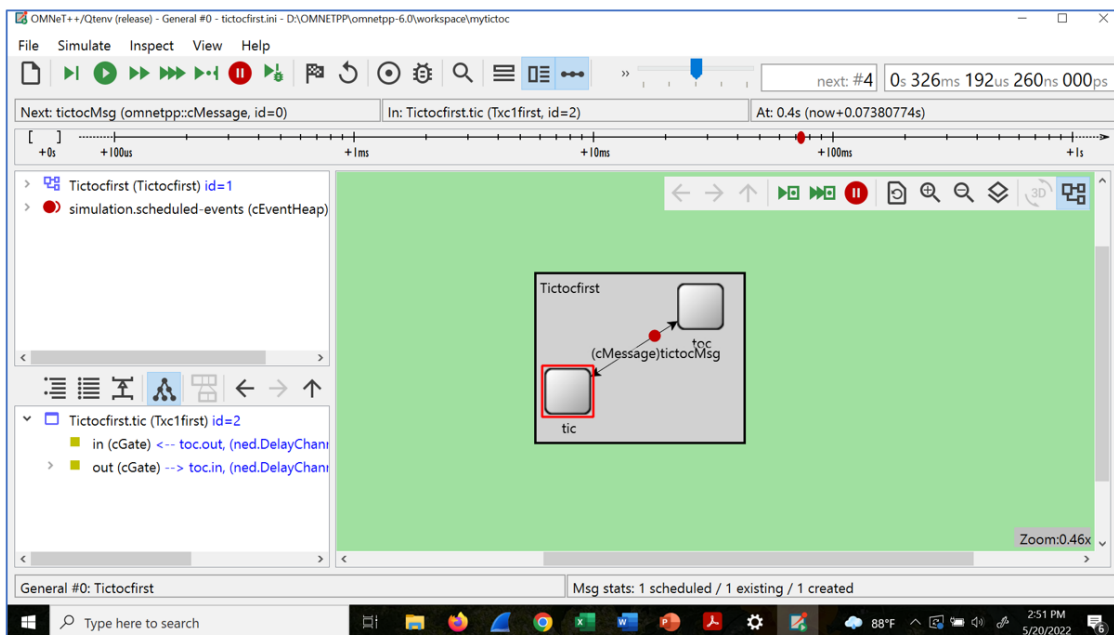

Figure 3.3: The Qtenv runtime GUI
- After successfully launching your simulation, you should see a new GUI window appear, similar to the one in Figure 3.3. The window belongs to *Qtenv*, the main OMNeT++ simulation runtime GUI. You should also see the network containing *tic* and *toc* displayed graphically in the main area.